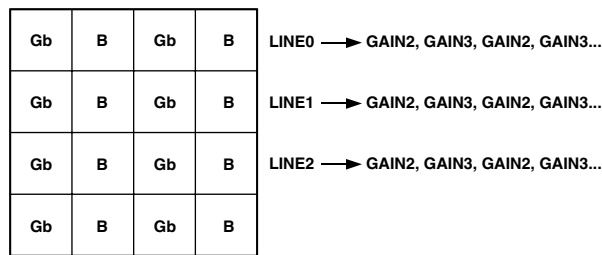
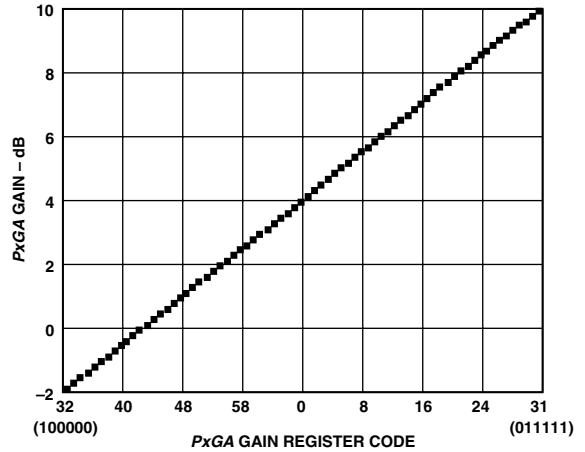

Figure 18b. CCD Color Filter Example: Interlaced
Figure 19. PxGA Gain Curve
The same Bayer pattern can also be interlaced, and the VD selected mode should be used with this type of CCD (see Figure 18b). The Color Steering performs the proper multiplexing of the R, G, and B gain values (loaded into the PxGA gain registers), and is synchronized by the user with vertical (VD) and horizontal (HD) sync pulses. For more detailed information, see the PxGA Timing section. The PxGA gain for each of the four channels is variable from -2 dB to +10 dB, controlled in 64 steps through the serial interface. The PxGA gain curve is shown in Figure 19.